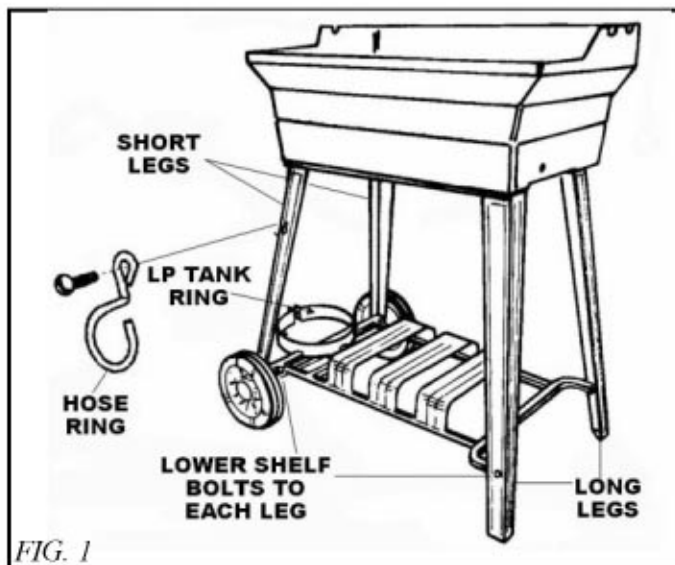
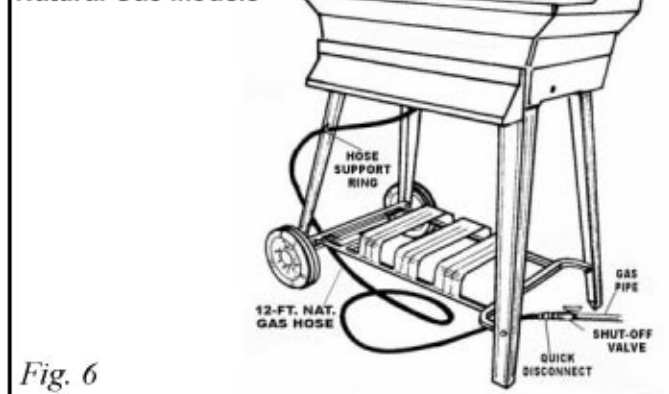

FIG. 1
Fig. 6
If the grill is to use Natural Gas from the supplied 12-foot hose (Fig. 6): the hose must pass through the hose ring (See Fig. 1). The hose will have a quick-disconnect fitting at the source and the source will have a gas shut off valve with easy access.
Step 2: Deck/Patio Mounting Installation (Fig. 6)